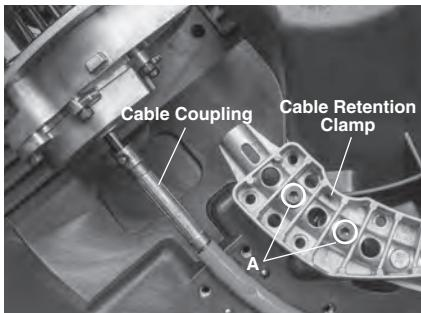
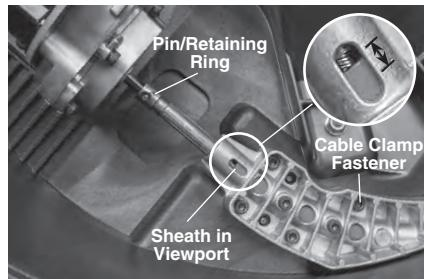

Figure 19 – Cable Installation
Figure 20 – Sheath Position In Viewport
3. Loosen sheath clamp screws (*Figure 19 A*) two turns, but do not remove.
4. Remove the cable retention clamp fasteners and retention clamp (*Figure 19*).
- Loosely install the 4 cable retention clamp fasteners (see *Figure 19*). Make sure that the cable sheath is within $\frac{1}{4}$ " (6.4 mm) of the cable coupling. When looking through the viewport, the end of the sheath must be between the lines (see *Figure 20*).